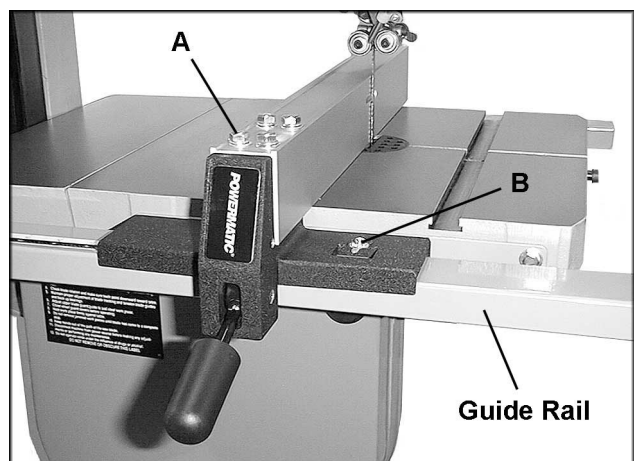

Fig. 19
12. Position the fence so that it just contacts the blade without bending it (see Fig. 19), and lock the fence handle to the guide rail. If the fence is not parallel to the blade, loosen the four hex cap screws (A, Fig. 19). Align the fence with the blade and tighten the four hex cap screws.
13. With the fence still contacting the blade as shown, check to see that the pointer (B, Fig. 19) is aligned with the zero marking on the guide rail. If adjustment is necessary, loosen the screw that holds the pointer in place, and slide the pointer. If greater adjustment is necessary, loosen the guide rail and slide it as needed. Re-tighten guide rail screws.